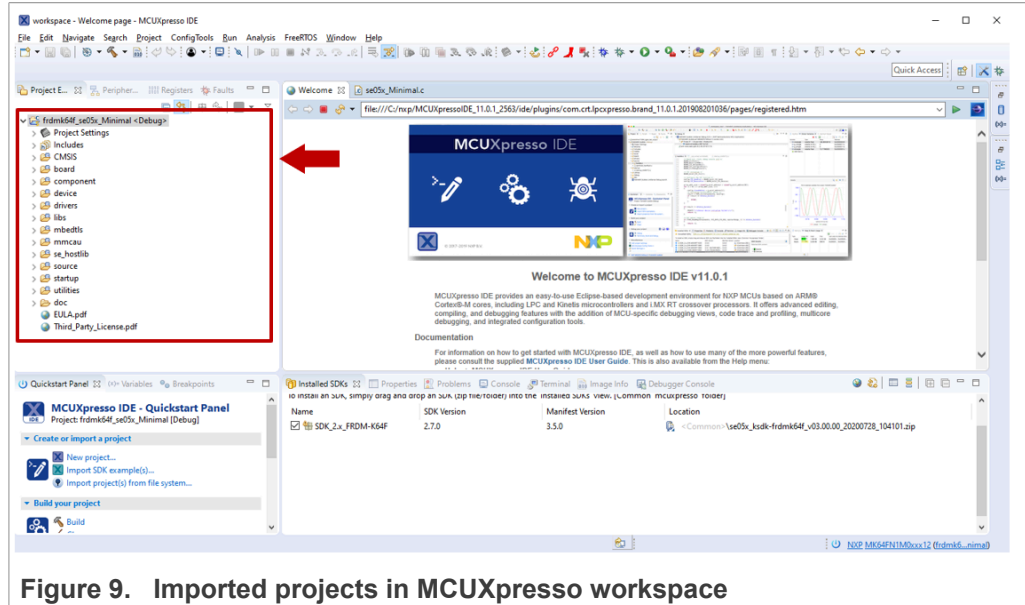

Figure 9. Imported projects in MCUXpresso workspace
- The projects you selected should now be visible in your MCUXpresso workspace as shown in Figure 9: